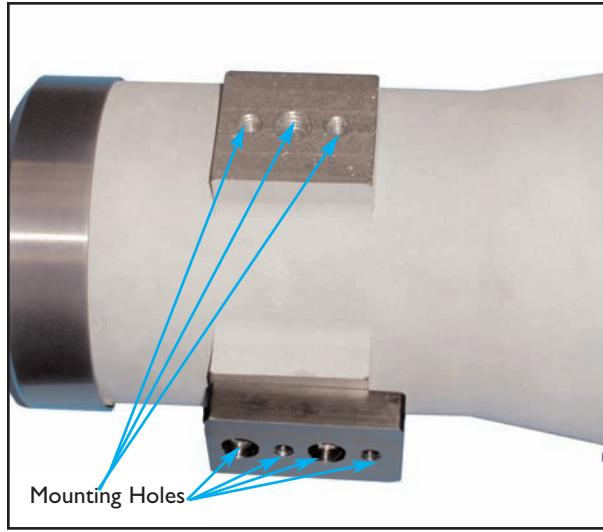

Figure 4-1. Mounting Hole Choices on 50/250 Module
- Please consult the applicable drawings for your module for specific information on mounting the unit to its enclosure. The 50/250 module is provided with a partial enclosure and offers a choice of mounting holes (see Figure 4-1); the Tri-field & the Continuous Zoom Modules are shipped on mounting blocks with through-holes and/or tapped holes provided for ease of mounting.